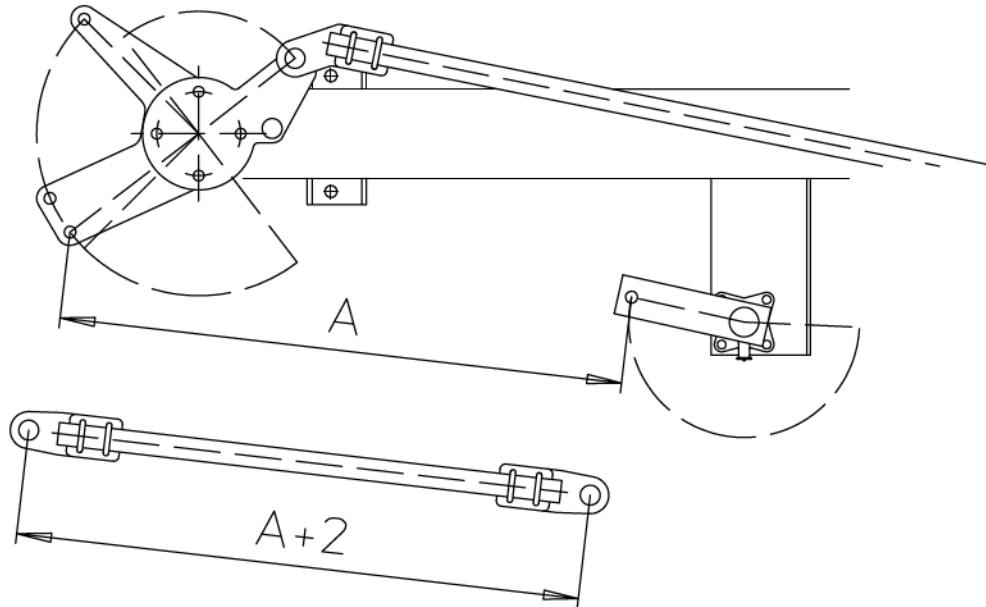

Figure 9
1. Put the lever in the position shown in Figure 9. The exact position of the pivot is indicated on the assembly drawing.
2. Measure the distance "A" between the levers. See Figure 9.